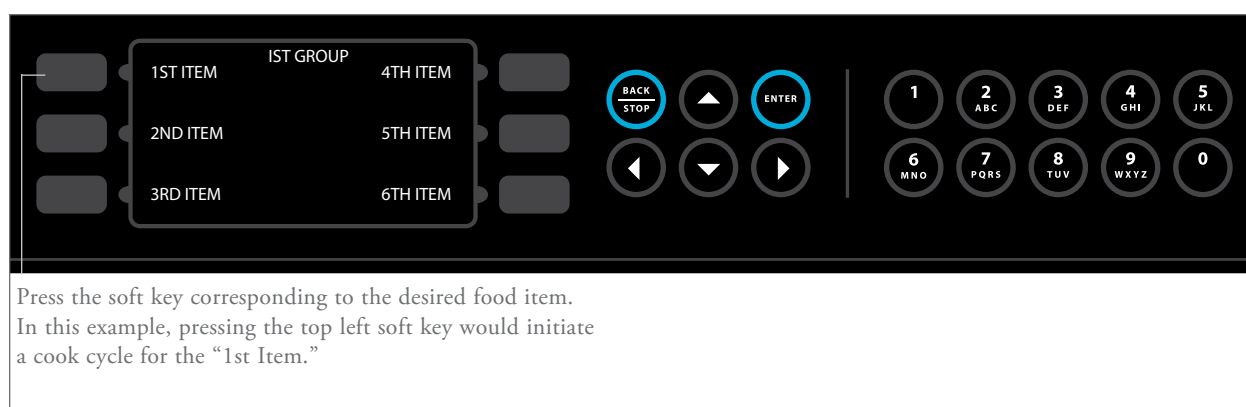

Figure 10: Selecting a Food Item
5. Select the item to cook by pressing the corresponding soft key (Figure 10).